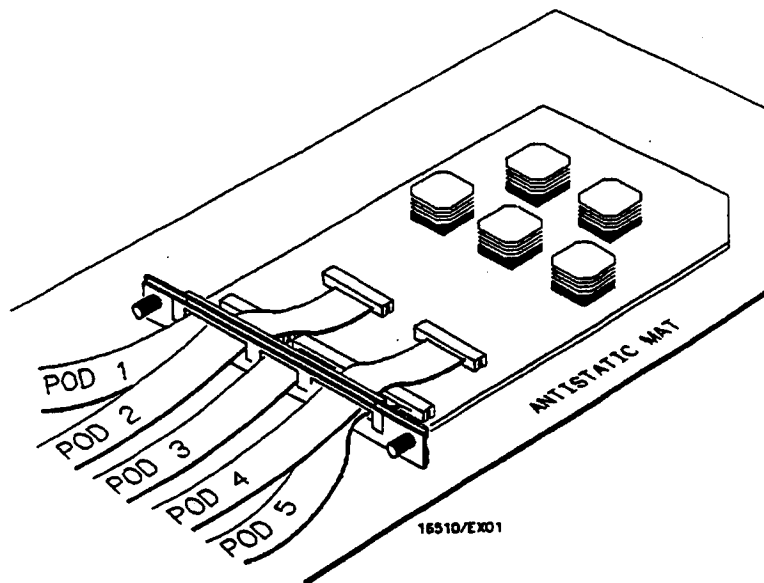

Figure 6-15. Card On Antistatic Mat
- e. Lay card on antistatic mat with cable(s) flat and pointing out to rear of card. See figure 6-15.